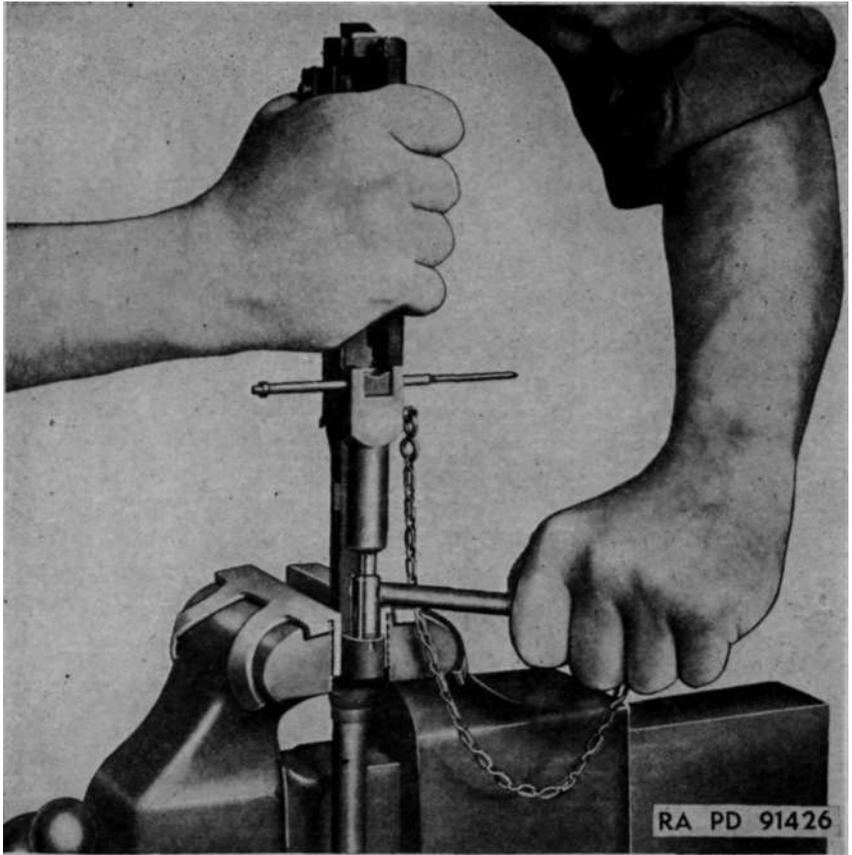

Figure 46. Removing piston nut from gas cylinder.
b. REMOVING GAS PISTON AND PISTON NUT. (1) The gas piston and piston nut are the only removable parts of the gas cylinder group. To remove piston, clamp barrel firmly in a vise with protected jaws and, using the gas piston nut removing tool M5, or gas piston holder and spanner wrench, unscrew the piston nut from gas cylinder. (See fig. 46.) Be careful not to bur or twist prongs on nut when removing (nut is staked in place) or piston will not move freely. (If piston nut or piston is tight, proceed as explained in par. 52a. Remove nut, elevate muzzle of barrel, and slide piston out of gas cylinder. If piston will not slide out, tap cylinder lightly with wooden block.
(2) The gas cylinder may be integral with the barrel, or swaged on the barrel at manufacture. Do not remove the gas cylinder. If gas cylinder is unserviceable, send weapon to base shop for replacement of barrel assembly.
(4) Inspect operating slide spring housing groove or spring well ("alternate" design receiver) for rust and foreign matter. Check both spring housing retainer hole in rear end of bed groove and spring housing alignment protrusion for burs.
(5) Inspect M1 and M2 receivers for run-out (drill breaking through to the bottom and right-hand side of the receiver). Receivers have been accepted in which this run-out occurred if the break-through was properly cleaned by a $1/8$ to $3/16$ inch diameter end milling operation to eliminate all feather edges. All such cleaning operations must take place at a point well behind the right locking lug surface (break-through closer than 3 inches from the front of the receiver is not permitted).
a. FROZEN PISTON NUT OR PISTON. (1) *Piston nut.* Due to heat of barrel, and hot gas entering the gas cylinder, the piston nut may become "frozen" in the gas cylinder, making removal difficult. If nut does not loosen readily, clamp gas cylinder in a jaw-protected vise so that cylinder is firmly held with the piston nut pointing up. Then unscrew nut counterclockwise, using cylinder holder and spanner wrench (41-H-2373) (fig. 46), exercising care to hold the tool in close engagement with the nut when turning. If tool is held loosely and thus allowed to slip out of engagement repeatedly, the lugs on the nut or tool will become worn and make removal difficult. If nut will not loosen as above, soak with preservative lubricating oil (light) for about an hour to loosen binding. Oil can be dropped through gas port drill hole in gas cylinder.